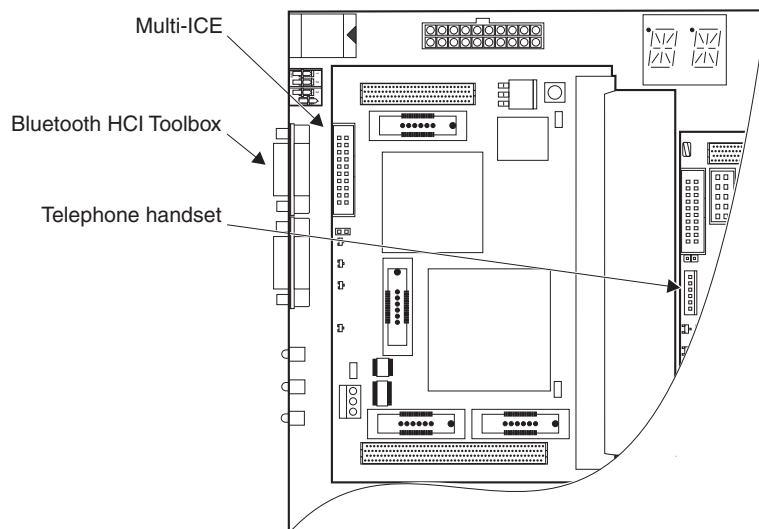

Figure 2-2 Equipment connections
- 4. Connect the BDP to a PC running the Bluetooth HCI Toolbox and Multi-ICE as shown in Figure 2-2 on page 2-4:
2. Connect the terminals to the serial ports to UART0 of each board (the same UART labeled *Bluetooth HCI Toolbox* in Figure 2-2 on page 2-4).